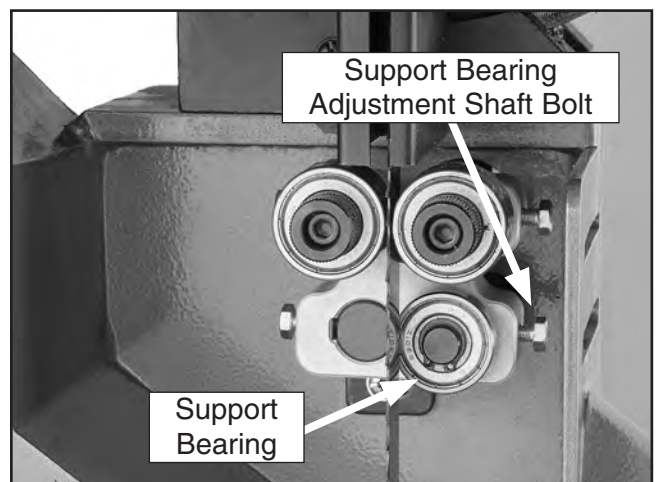

Figure 30. Lower support bearing controls.
- Familiarize yourself with lower support bearing controls shown in **Figure 30**.